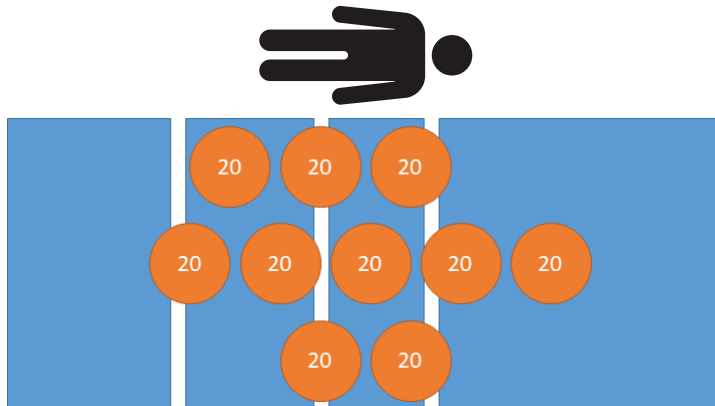

Figure 25 – Repeatability test - 200 kg
1. Using calibrated weights, place 200 kg on the product (Figure 25).